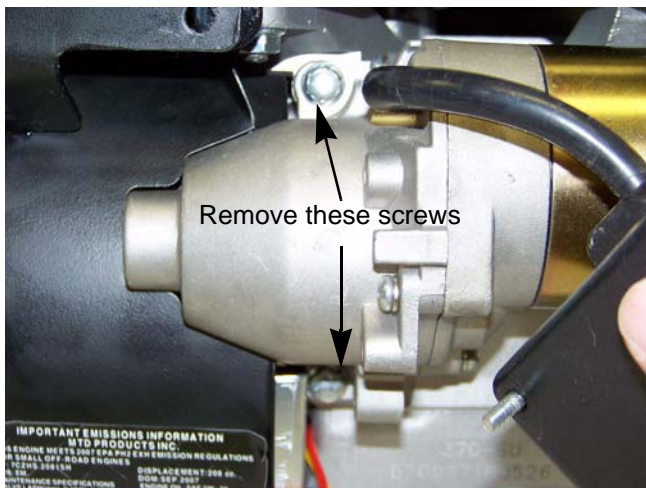

Figure 6.11
3. Remove the starter by removing the two screws that hold it to the engine block using an 8mm wrench. See Figure 6.11.